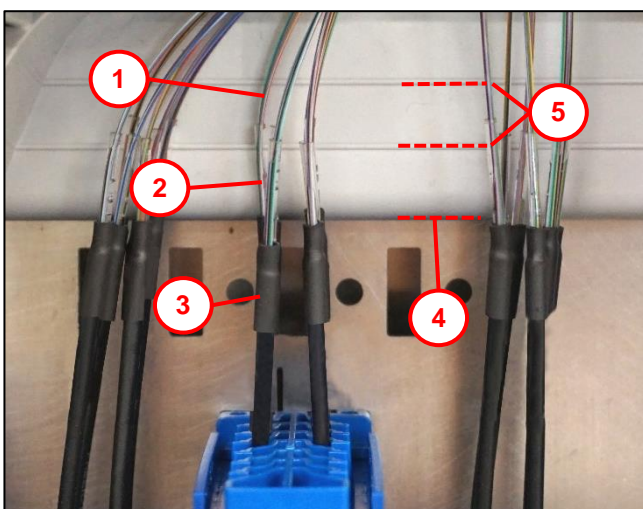

Fig. 27
- Press the drop cables **(1)** into the clamping points **(2)**, referring to Fig. 27 for the length of cable sheath to be stripped above the clamping points.